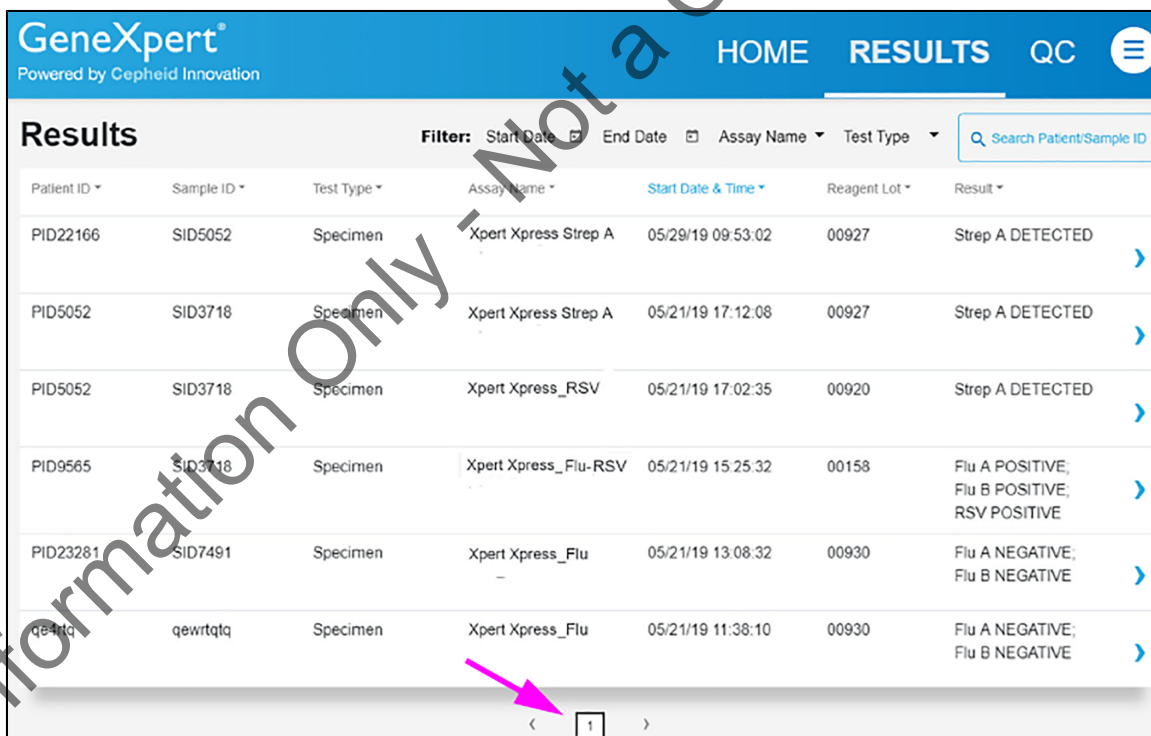

Figure 25. Results Screen
1. Touch the **RESULTS** button located on the panel at the top of the screen. The Results screen displays (see Figure 25).